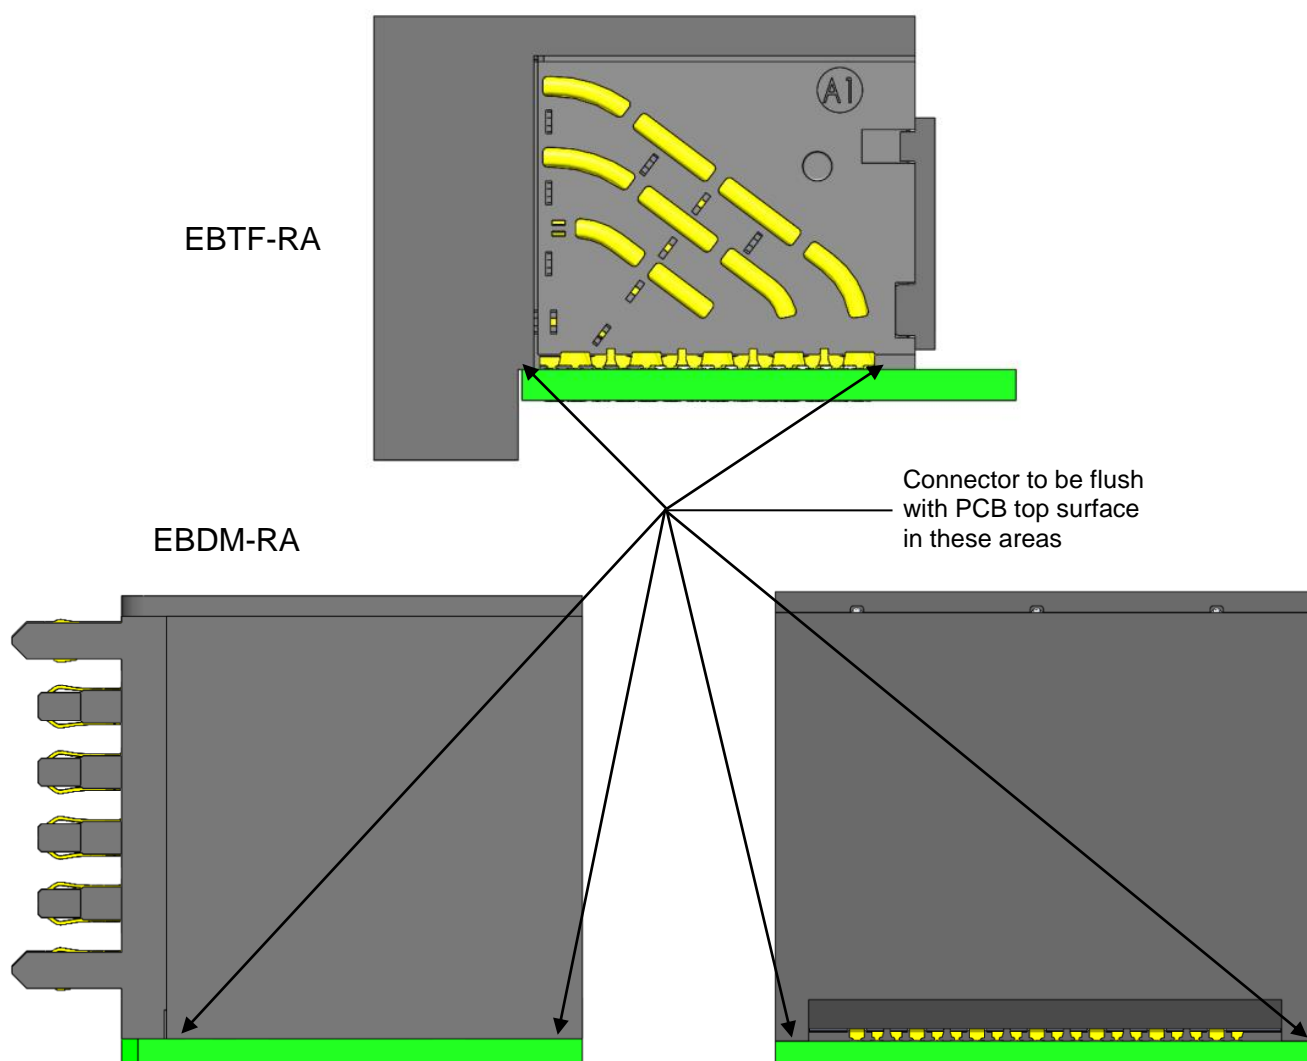

Figure 31: Proper Seating after Board Application
- Using a flat rock surface and an insertion press, apply force to the flat area of the connector as shown in figure 31.
- Visually check that the standoffs on the bottom of each assembly are seated flush and parallel with the PCB surface (see Figure 31). Once fully seated, there may be some minor gaps (<0.1 mm) due to component tolerances.